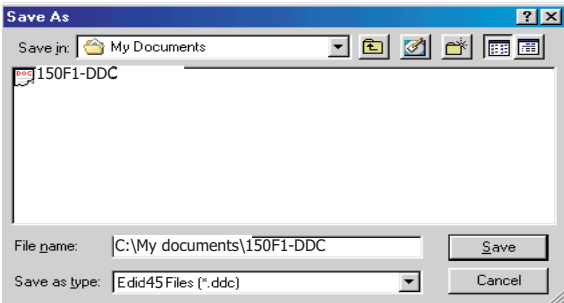

Fig. 24
1. Click  (Save) icon (or click "file"-> "save as") from the tool bar And give a file name as shown in Fig. 24. The file type is EDID45 file (*.ddc) which can be open in WordPad. By using WordPad, the texts of DDC data & table (128 bytes, hex code) can be modified. If DDC TEXTS & HEX Table are completely correct, it can be saved as .ddc file to re-load it into DDC IC for DDC Data application.